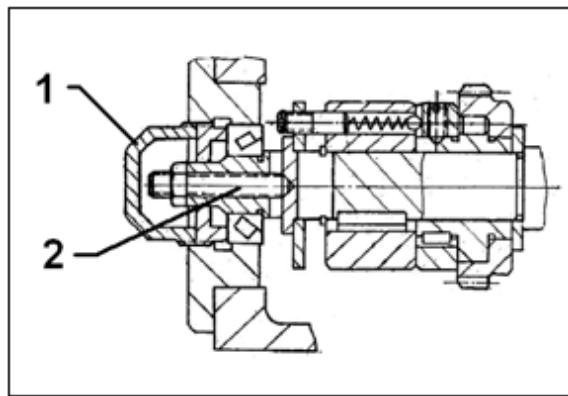

Fig 20
To adjust the feed overload clutch, remove the cover (1, Fig 20) and adjust screw (2). Be sure not to set it too tight, otherwise no protection function and the machine may be damaged.